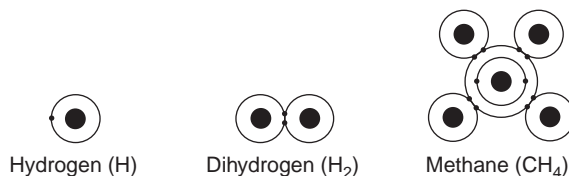

Figure 19.5
- Oxygen (O), the first element illustrated has an outer shell with six electrons. It needs two more to form the stable octet. Its valence is two. As shown, e.g., in the water molecule, H₂O (or H-O-H) oxygen is bonded to two hydrogen atoms. (You may correctly surmise from this that the valence of H is one.)
- Note that nitrogen (N) has five electrons. It needs three more, so its valence is three. A common compound that N forms is ammonia with three hydrogens, NH₃.
- And carbon (C) – so all important to life – has only four electrons. It needs four more.¹¹ Its valence is four. The simplest example of an organic C compound is methane, CH₄ (Figure 19.5).
Several very light elements are *exceptions* to the stable octet as they have too few electrons. For these elements, think about the innermost shell, which needs only two electrons to be full. Examine Figure 19.5.
- Hydrogen (^1H) has only one electron. It needs one more to be stable. So H has a valence of one. If another H atom is available, the two will react to form H_2 gas (Figure 19.5): they share the pair of electrons. Other examples given in the paragraph above also indicate the valence of one for hydrogen: H_2O , NH_3 , and CH_4 . ■ Hydrogen very often reacts with carbon to form organic compounds (described later in this chapter). A major group of compounds formed by the reaction of H with C is the hydrocarbons such as those in petroleum or coal. The simplest hydrocarbon is methane. A carbon atom with its valence of four reacts with four hydrogens to form methane, CH_4 (Figure 19.5).
In a covalent bond the atoms *share* electrons – as shown for H_2 in Figure 19.5. Also see the diagram for methane, CH_4 . Notice that each of the four hydrogens in CH_4 is sharing a pair of electrons with carbon. Each H now has a stable configuration, and carbon has formed the stable octet. ■ Covalent bonds are found in countless chemicals. You may remember from earlier chapters the names of chemicals such as carbon monoxide (CO), methane (CH_4), ammonia (NH_3), oxygen (O_2), nitrogen (N_2), formaldehyde (HCHO), benzene
Look at the two molecules in Figure 19.5, H_2 and CH_4 .